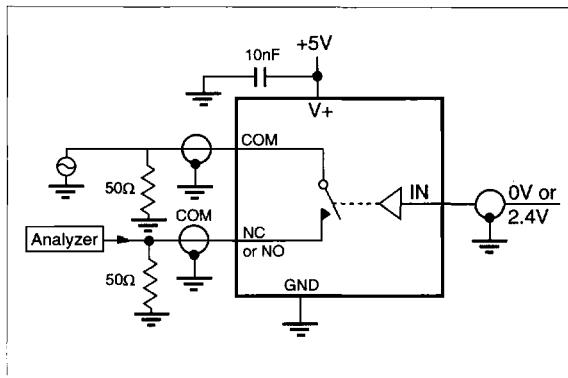

Figure 3. Off Isolation
7. Off Isolation = $20\log_{10} [V_{COM}/(V_{NO} \text{ or } V_{NC})]$. See figure 3.